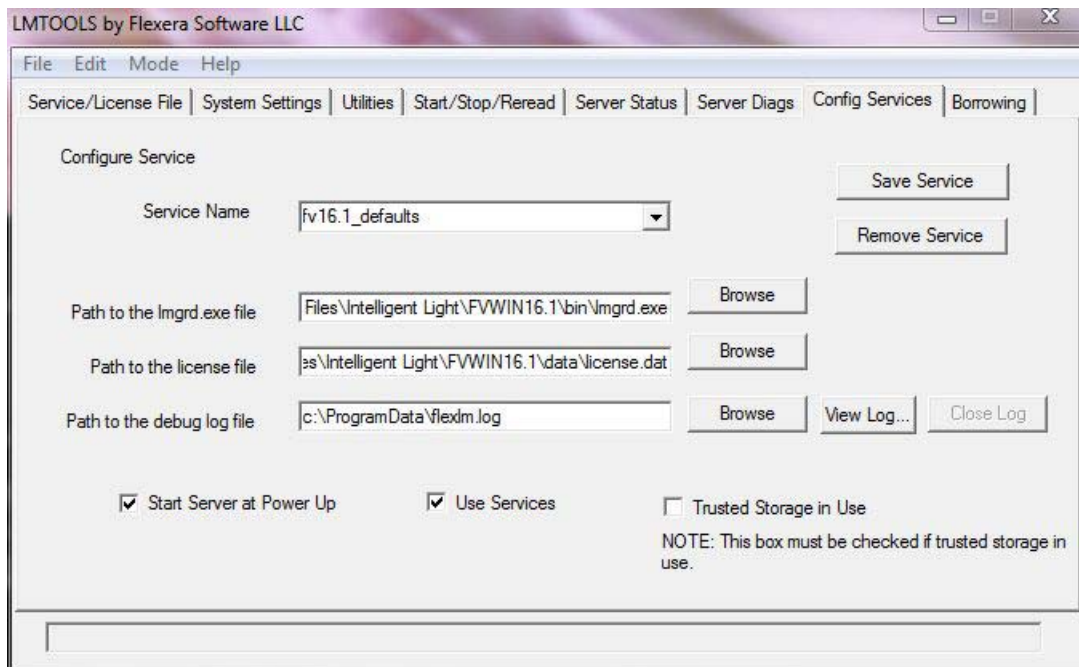

Figure 10: FLEXlm Config Services Tab
The set-up of the Concurrent User license requires that the server machine be configured with the **LMTOOLS** utility so that the server can be started, stopped, and otherwise managed (see Figure 10).
3. Press the Config Services tab (see Figure 10). If you already have a **FieldView** Service Name setup, you will need to update this for **FieldView 20**. To update the setup, proceed to step 4. If you do not have an existing **FieldView** service, you will have to create one. To do this, in the Service Name field, type in the phrase `FieldView License` (DO NOT press the Enter key after this).